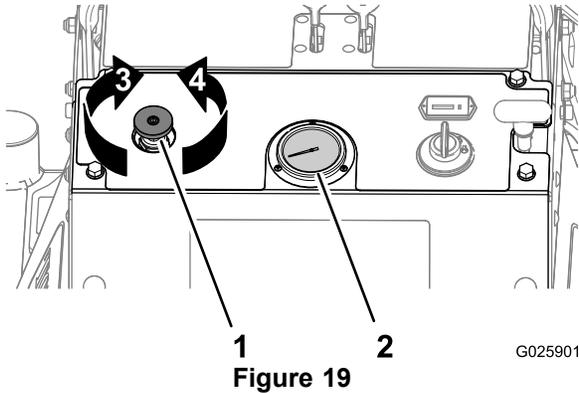

Figure 19
Note: First time use: set the tine pressure control so that the tine-pressure gauge (Figure 19) indicates 24 bar (350 psi).
- Rotate the tine-pressure control **counterclockwise** (Figure 19) to decrease the downward pressure in order to remove a **shorter** plug.
- Rotate the tine-pressure control **clockwise** (Figure 19) to increase downward pressure in order to remove a **longer** plug.